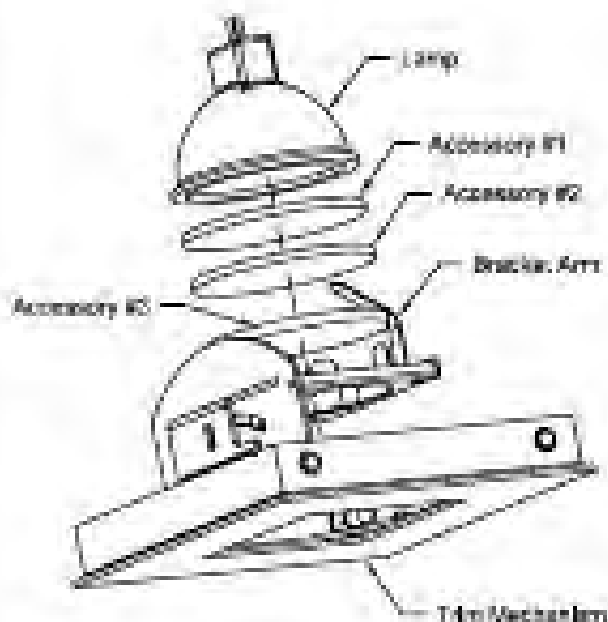

Figure 4
2. Slide out Lamp and/or Accessories from under Bracket Arm to remove. See Fig. 4.